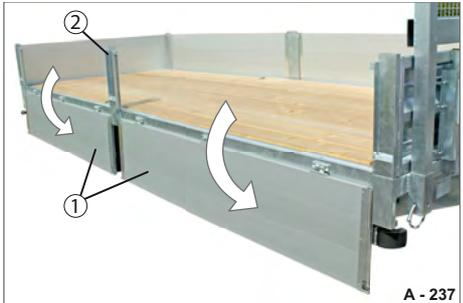

Fig. 122 Platform gate, two-piece, folded down
► Fold down the platform gates (Fig. 122/1) one after the other. The middle post (Fig. 122/2) remains inserted in the post pocket.